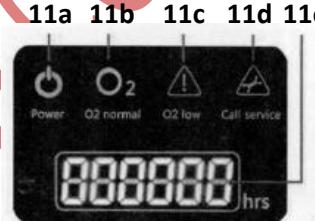

Figure 8
The following parts are illustrated with reference to Figure 8
11. LED Display (Reference Figure 8)